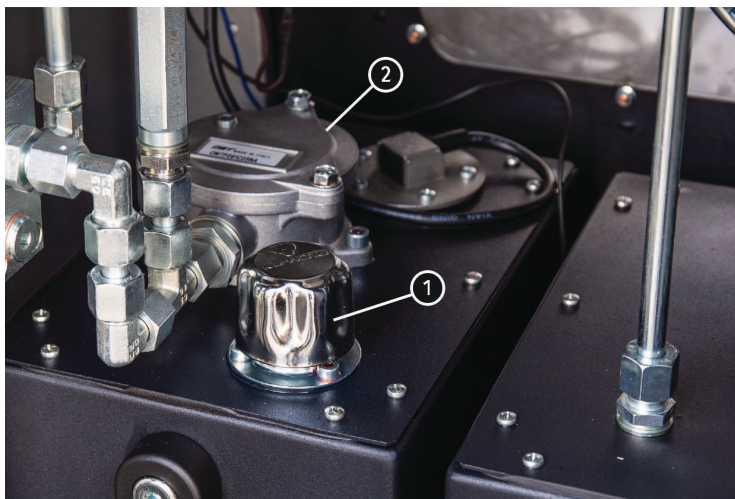

Figure 4. Filler neck 1 and filter 2
- 1) Pour in new ATF oil. Open the rear panel of the bench with a wrench and pour ATF oil into the tank through the filler neck (Fig. 4).